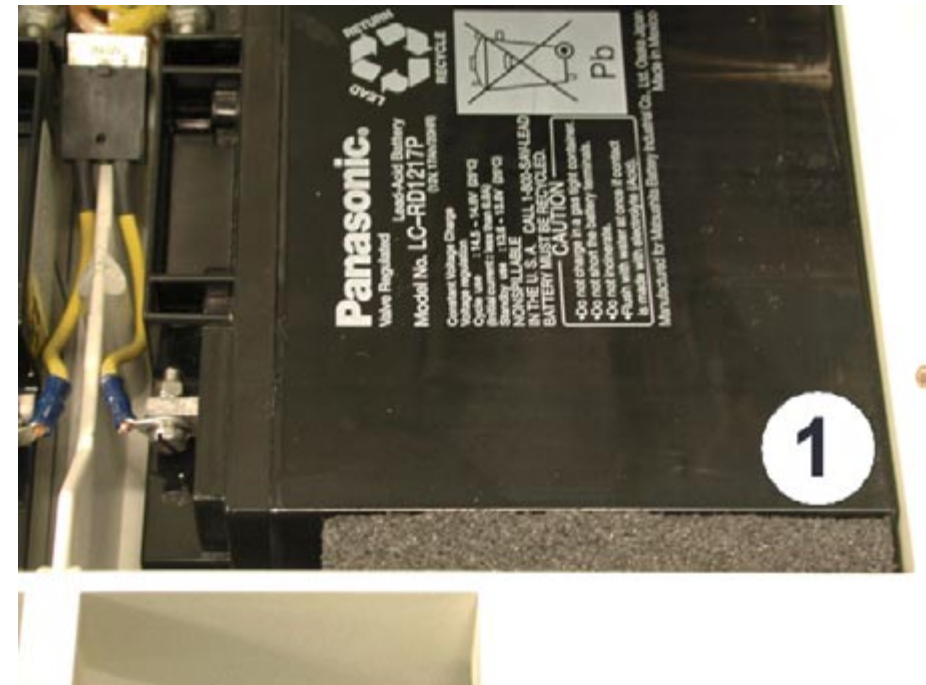

Fig. 10 Fitting position of the right-hand rechargeable battery pad
- 14 Use the pads (Fig. 10/1) to fix the left-hand and right-hand batteries in position.